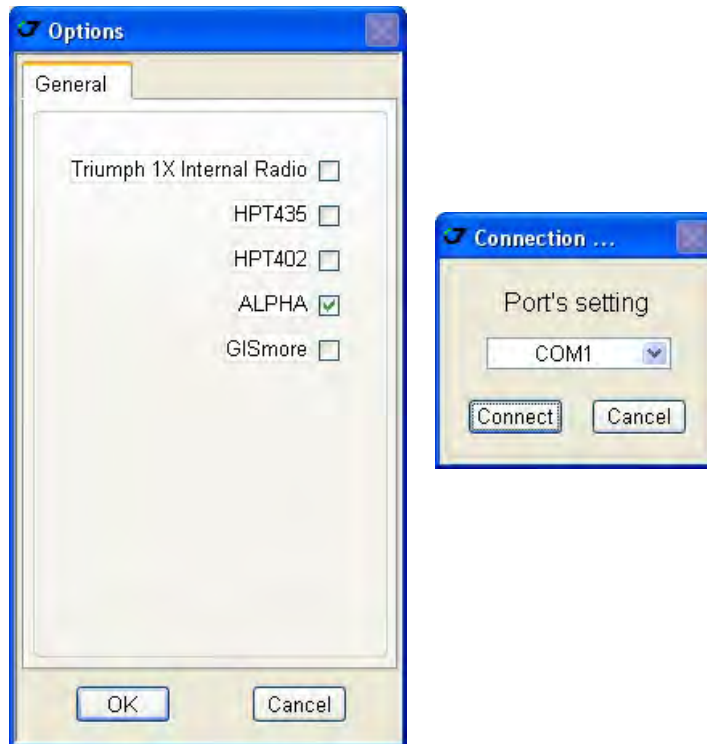

Figure 4. Options window
3. Select the radio type ALPHA (Figure 4), and click *OK*: